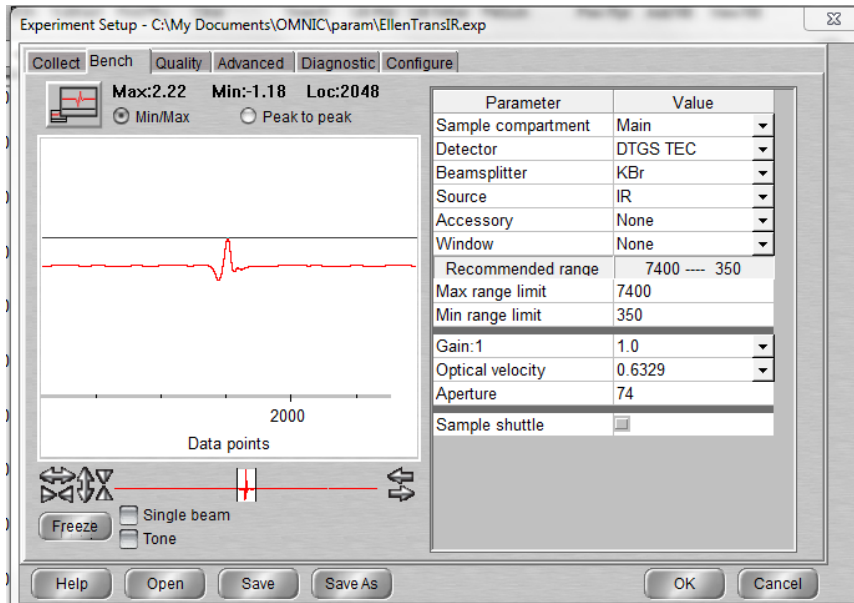

Figure 2 Bench tab in Experimental setup window.
- a. Choose the Bench tab shown in Figure 2.